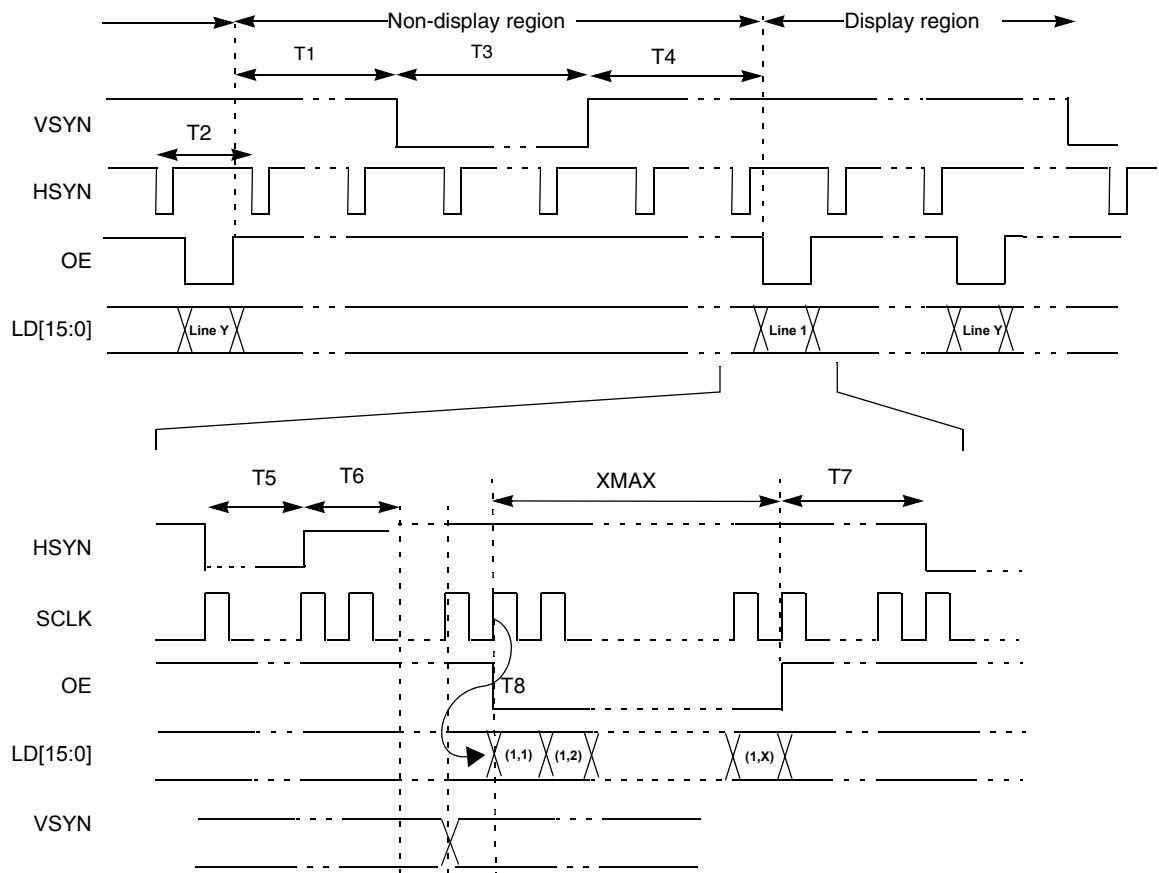

Figure 46. 4/8/16 Bit/Pixel TFT Color Mode Panel Timing Diagram
- VSYN, HSYN and OE can be programmed as active high or active low. In Figure 46, all 3 signals are active low.
- SCLK can be programmed to be deactivated during the VSYN pulse or the OE deasserted period. In Figure 46, SCLK is always active.